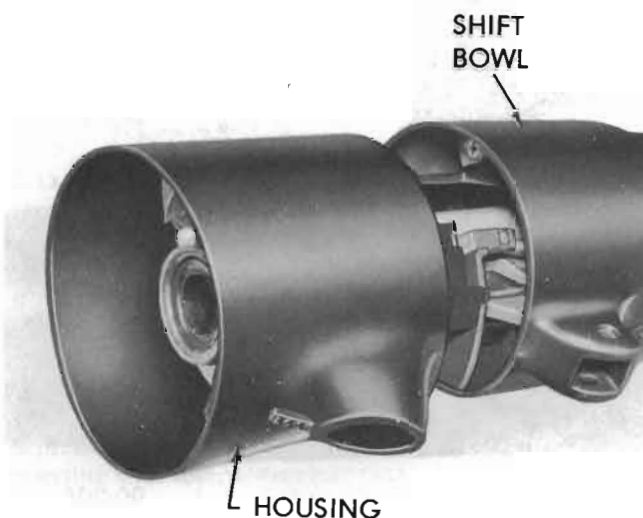

Figure 90-103 - Installing Upper Bearing Housing
9. With the bowl in place, install the upper bearing housing assembly on the jacket. The bowl should be in the "Park" position and the rack pulled downward. Be sure the housing is seated on the jacket and install the screws. See Figure 90-103.